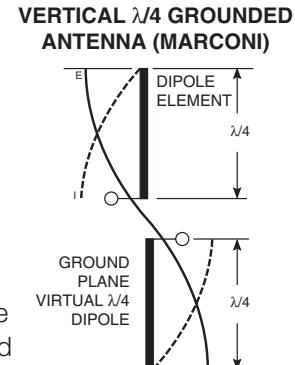

Figure 22: Dipole Antenna
4. In many antenna designs, particularly  $\frac{1}{4}$ -wave whips, the ground plane acts as a counterpoise, forming, in essence, a  $\frac{1}{2}$ -wave dipole (Figure 22). For this reason, adequate ground plane area is essential. The ground plane can be a metal case or ground-fill areas on a circuit board. Ideally, it should have a surface area less than or equal to the overall length of the  $\frac{1}{4}$ -wave radiating element. This is often not practical due to size and configuration constraints. In these instances, a designer must make the best use of the area available to create as much ground